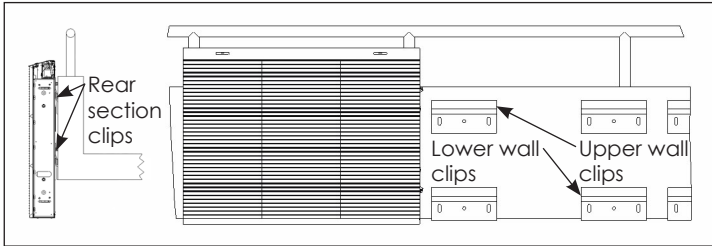
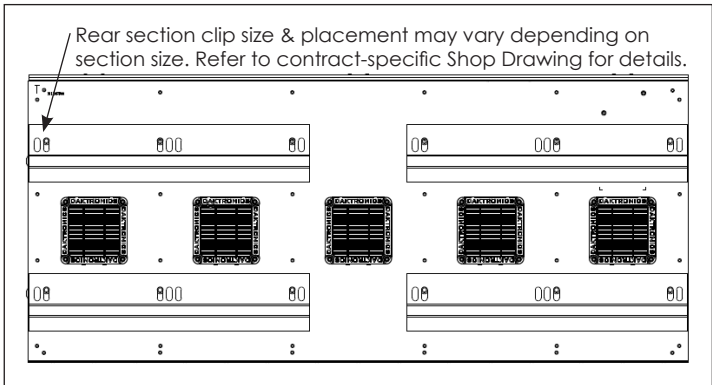

Figure 5: Mount Display to Wall
Figure 6: Rear Section Clips
4. Use the rear section clips to mount the display section to the wall. Refer to **Figure 5** and **Figure 6**. Ensure the section sits completely in the upper wall clips without the upper and lower wall clips extending past the end or edges of the rear section clips. If the rear section clips need to be moved (other than being adjusted up or down), contact Structural Engineering.